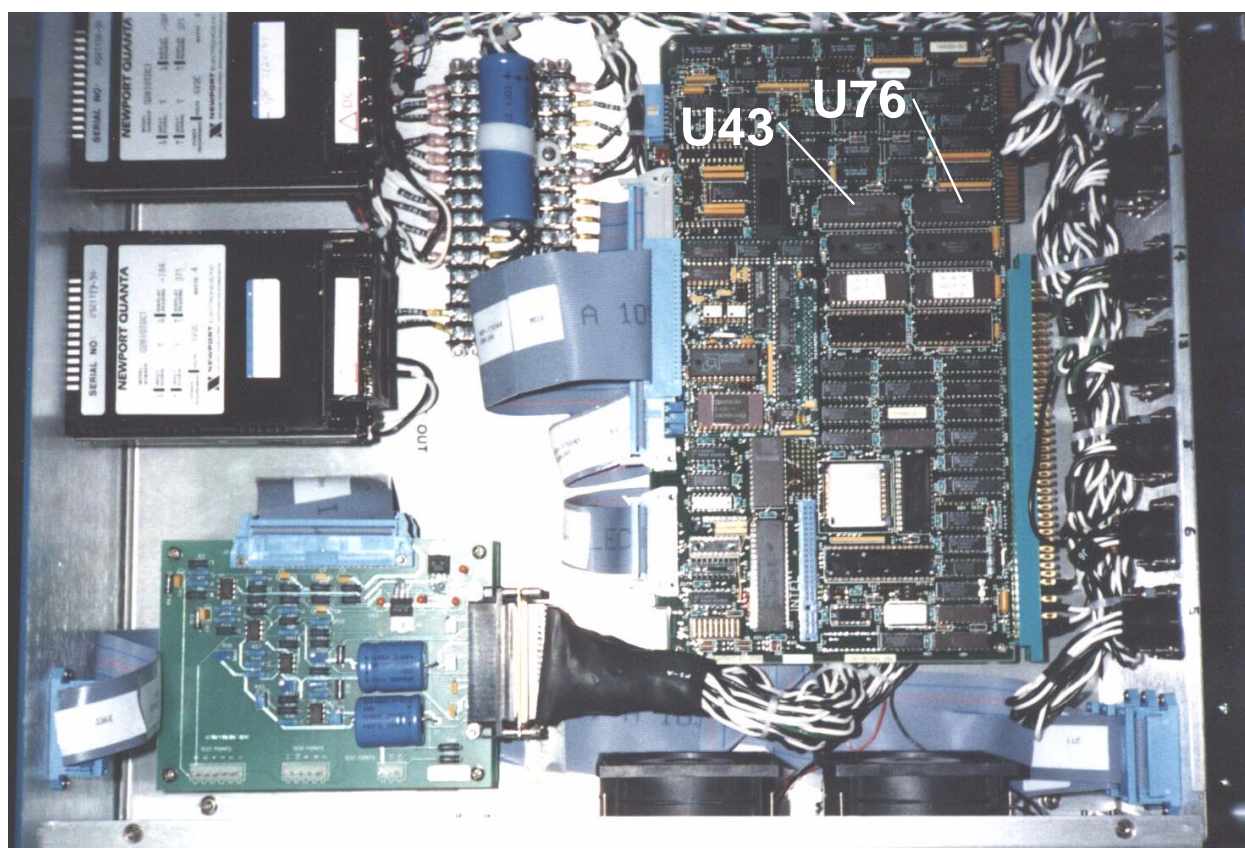

Figure 4-35 Status Monitor EEPROM Chip Replacement
7. Remove U43 and U76 from the Intel SBC using the chip-pulling tool (see Figure 4-35 for locations of chips). Place the chips on the anti-static mat.